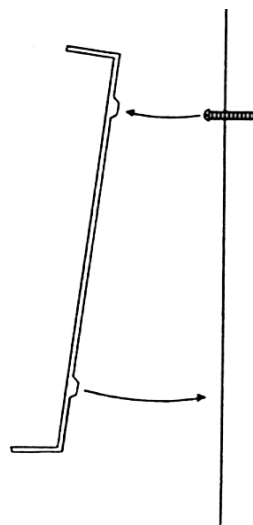

Figure 2-4: Attaching the KSU to the Wall Mount Template
2. While holding the KSU, hang the upper two openings that are located in the KSU base over the wall mount template. (Refer to *Figure 2-4: Attaching the KSU to the Wall Mount Template*, Pg 47.)